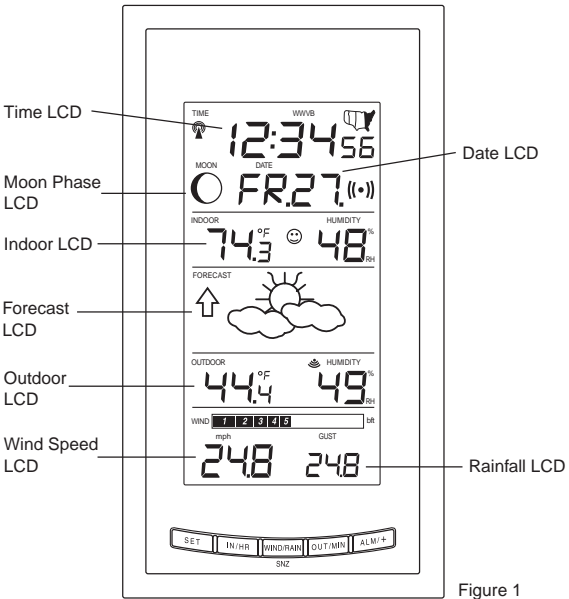

Figure 2
- 2. One TX8U remote temperature/humidity sensor (Figure 2).